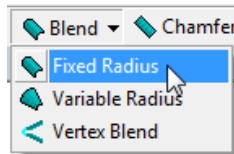

Figure 3-48 Choosing the **Fixed Radius** option from the **Blend** drop-down
1. Choose the **Fixed Radius** tool from the **Blend** drop-down in the **Features** toolbar, refer to Figure 3-48; **FBlend1** is attached to the Tree Outline. Also, you are prompted to select the edges to be blended.